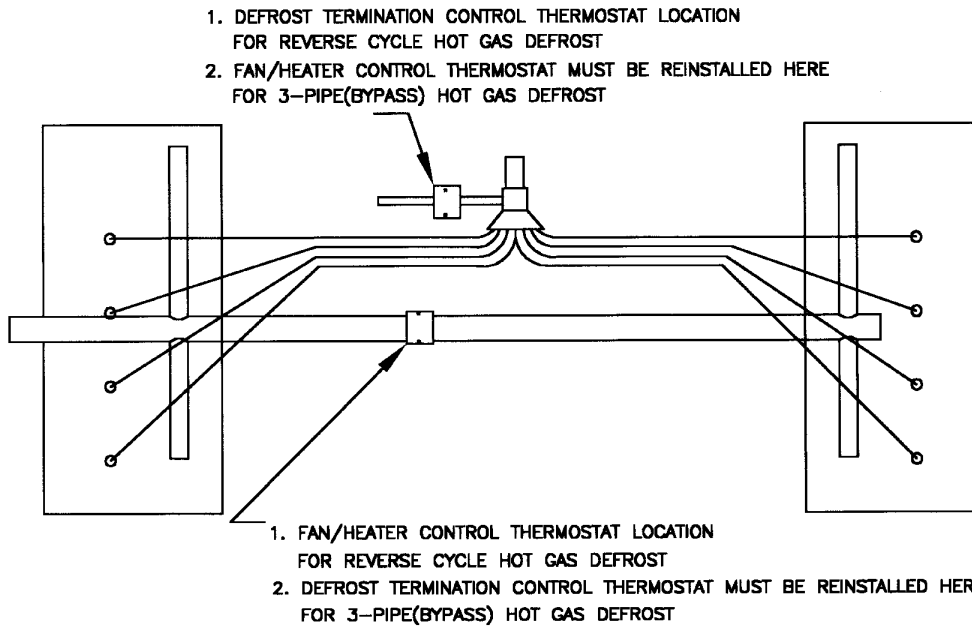

FIGURE 1
3. Fan/Heater control and defrost termination control is factory installed for reverse cycle defrost operation. Refer to Fig. 1 on page 14.
4. If coil is to be used for 3-pipe (bypass) Hot Gas Defrost, Fan/Heater must be moved from suction line to hot gas inlet line and the defrost termination control moved to the suction line. Refer to Fig. 1 on page 14.